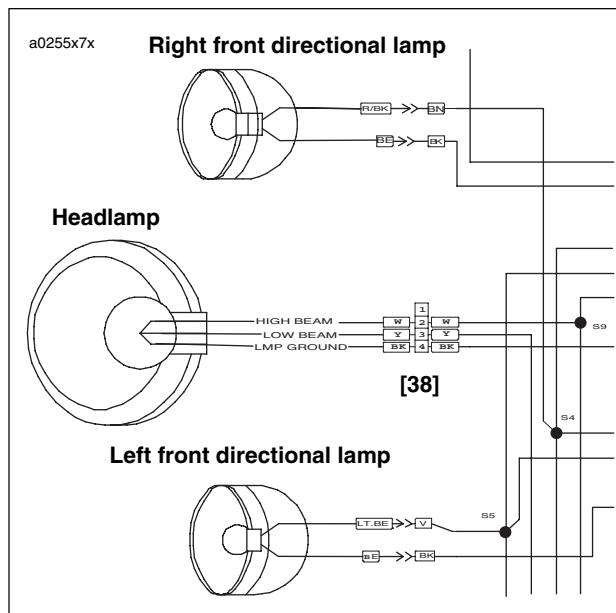

Figure 7-66. Front Turn Signal Connections
2. See Figure 7-66. Disconnect two bullet connectors on turn signal wires.
2. Attach two bullet connectors on turn signal wires as shown in Figure 7-66.